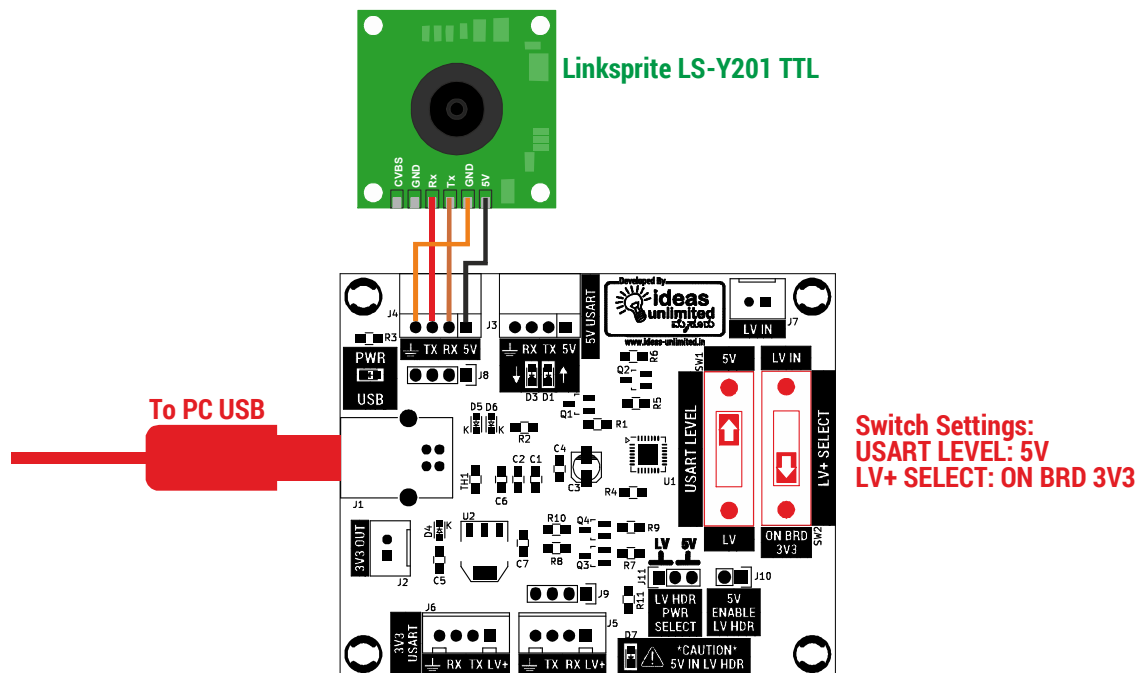

Figure 3 : Wiring diagram to connect LS-Y201 TTL camera to PC for debugging/driver development
**Step 7:** Short TX and RX using a hookup (Female to Female) wire in J5 or J6 as shown in "Figure 3: Settings to test 3V3 port Loop back"